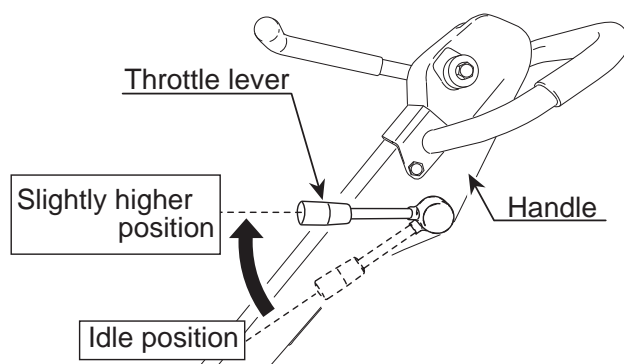

Figure 13. Throttle Lever (Higher Position)
2. Move the throttle lever (Figure 13) slightly higher from the *idle* position.